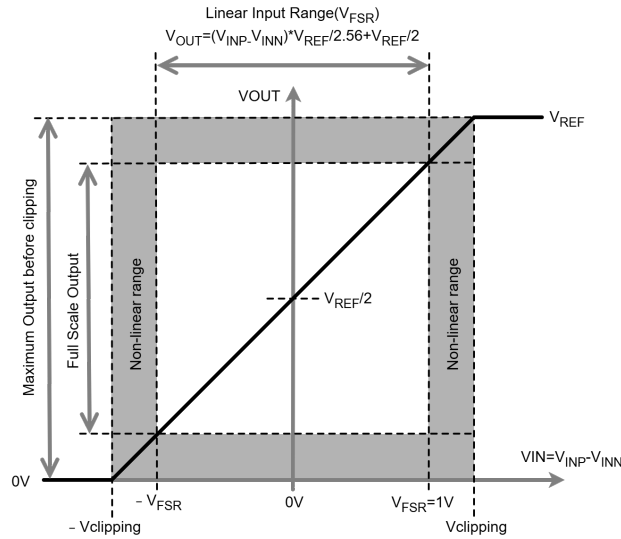

Figure 8.2 Input to Output Transfer Curve of the NSI36C12R
- When VREF is connected to an external reference voltage above 3V, the NSI36C12R has a dynamic output voltage range proportional to the voltage of VREF. The input to output curve is shown in Figure 8.2.